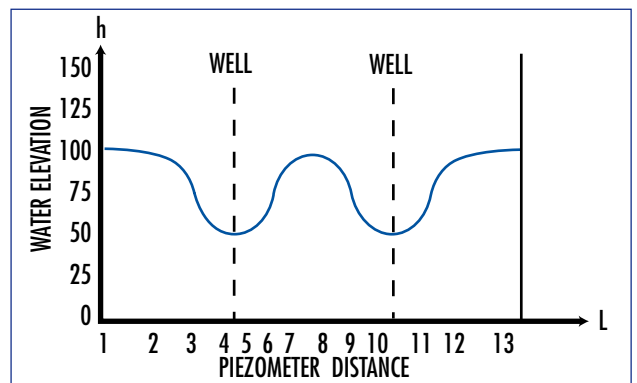

Fig. 5: De-watering an excavation site using two wells
- *De-watering of an excavation site using two wells. (Fig. 5)*
A rectangular ring is used to form the sides of an excavation below the level of the water table. Wells are used to lower the water table in the vicinity of the excavation. Thus the excavation is prevented from filling with water (fig.5).